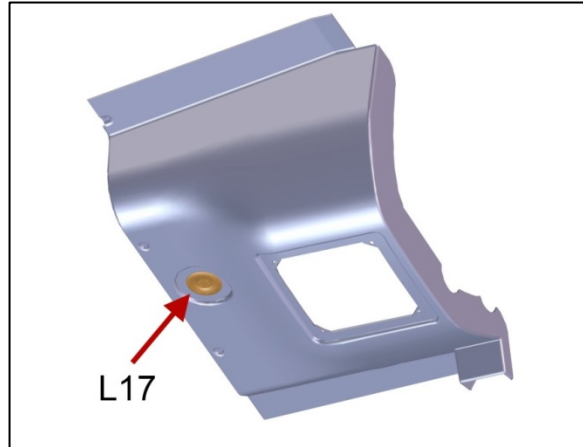

Figure 34
54. Locate the existing L17 light on the front RH roof (Figure 34).